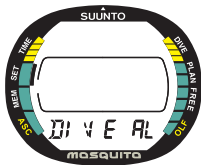

Fig. 4.10. Dive Alarm Setting Mode.
1. In the Setting Mode [SET], press S four (4) times to select the Dive Alarm Setting Mode (Fig. 4.10.).